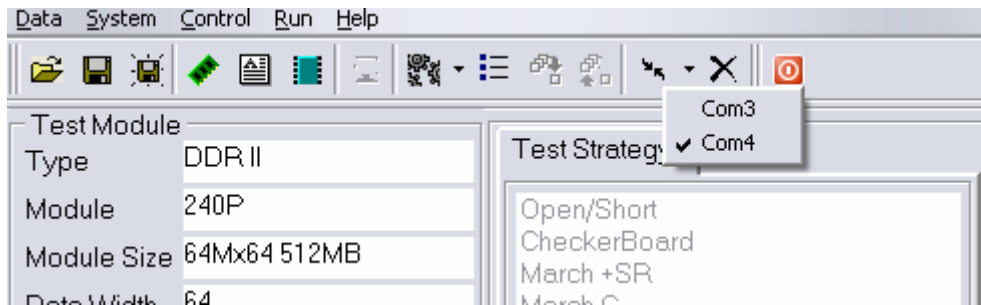

Fig. 28
Step 2: Launch the RS1000 software. Click on the  icon next to the “Connect” icon  to pick the correct virtual serial port for connecting the tester (which usually is the highest port available). (Fig. 28)